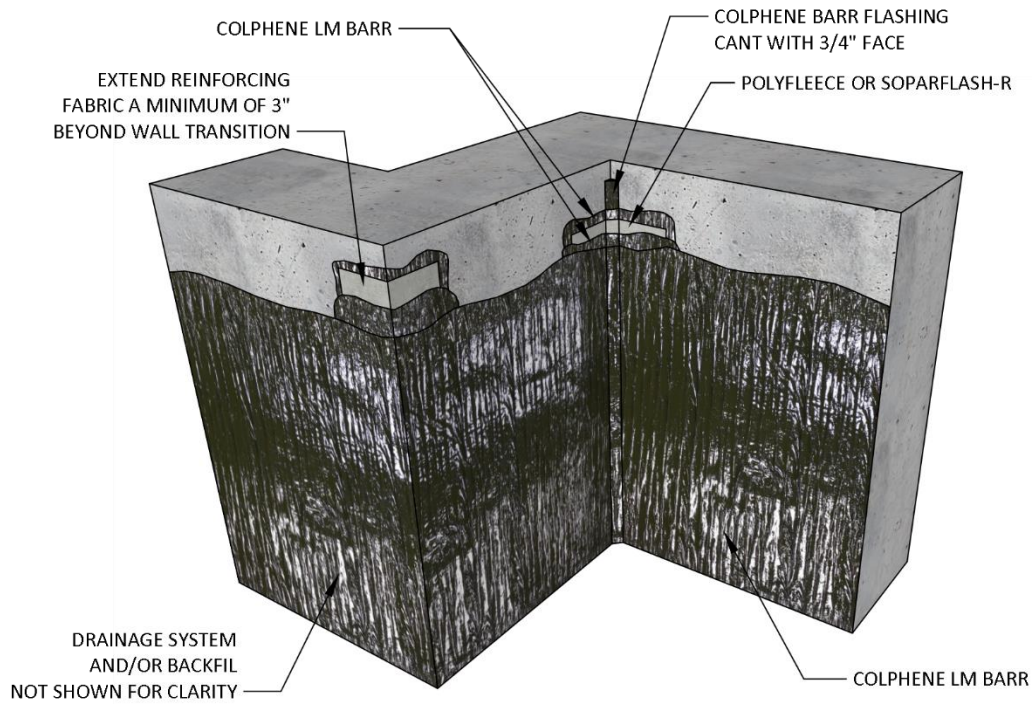
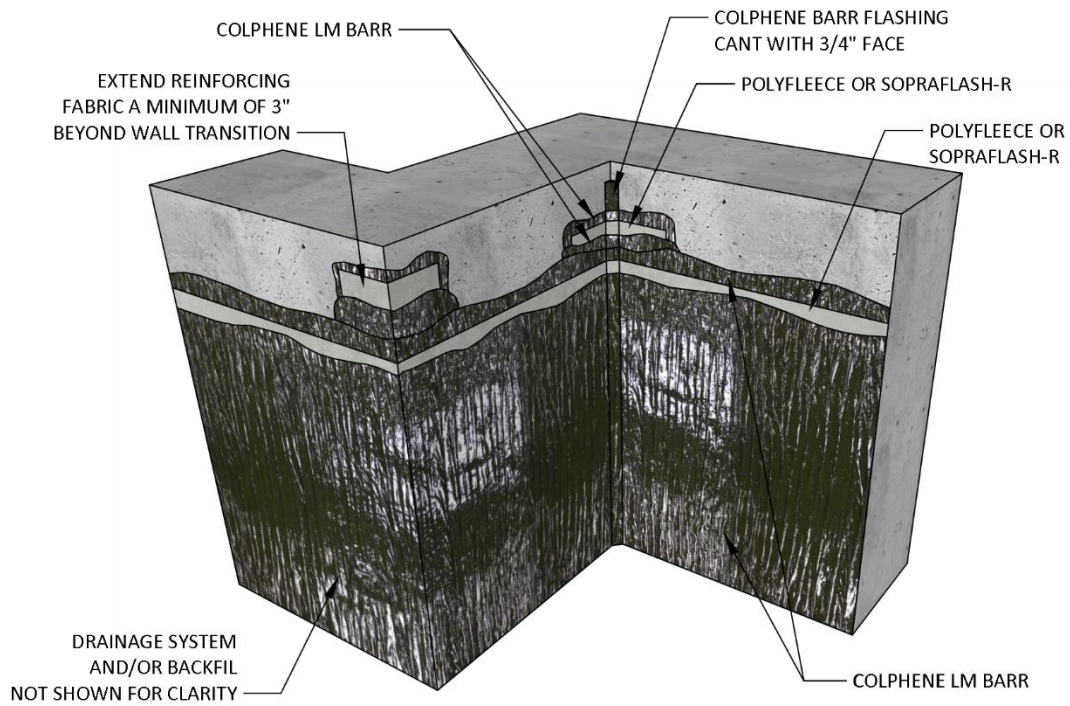

Figure 2.1a Non-Reinforced COLPHENE® LM BARR At Inside/Outside Corners
Figure 2.1b Reinforced COLPHENE® LM BARR At Inside/Outside Corners
- Refer to Figure 2.1a and Figure 2.1b below.